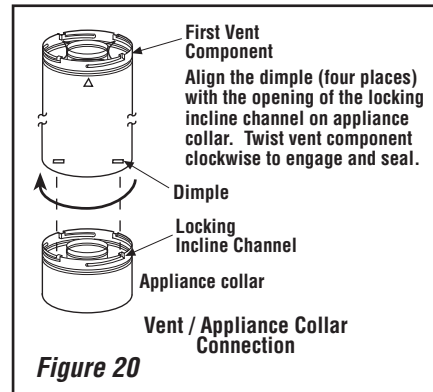

Figure 20
B. Attach vent components to appliance - Secure Vent® SV4.5 direct vent system components are unitized concentric pipe system components featuring positive twist lock connections (*see Figures 20 and 21*).
To attach a vent component to the appliance collar, align the dimpled end over the collar, adjusting the radial alignment until the four locking dimples are aligned with the inlet of the four inclined channels on the collar (*refer to Figure 20*). Push the vent component against the collar until it fully engages, then twist the component clockwise, running the dimples down and along the incline channels until they seat at the end of the channels. The unitized design of the **Secure Vent** components will engage and seal both the inner and outer pipe without the need for sealant or screws. If desired a #6 x 1/2" screw may be used at the joint, but it is not required as the pipe will securely lock when twisted.